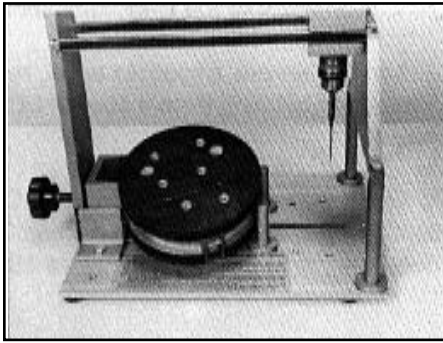

FIGURE 11 - END PLATE WITH HOLES DRILLED
5.07 If additional holes are needed, repeat preceding steps 5.03 - 5.06. (Figure 11)